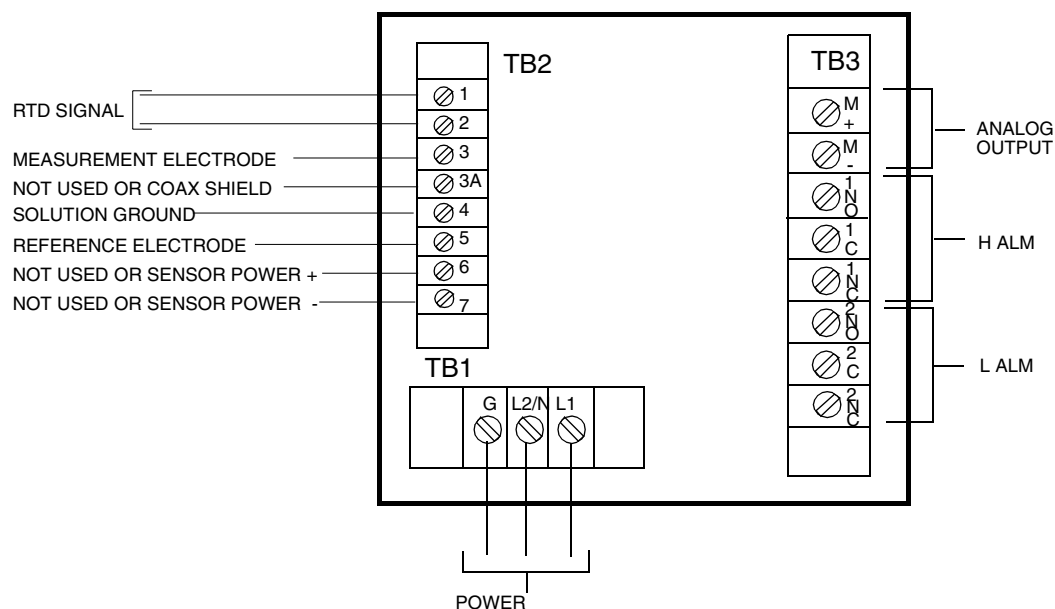

Figure 1. Plastic Enclosure Rear Panel Wiring for Power, Output, and Alarms
2. Connect H and L alarm wires to TB3 as shown in Figure 1.
3. Connect wires from external circuit for Analyzer measurement output to terminals TB3–1(+) and TB3–2(–). Refer to Figure 1.
5. Connect sensor wires to Analyzer terminal block TB2 as shown in Figure 1.
6. Connect power wires to terminal block TB1 as shown in Figure 1.